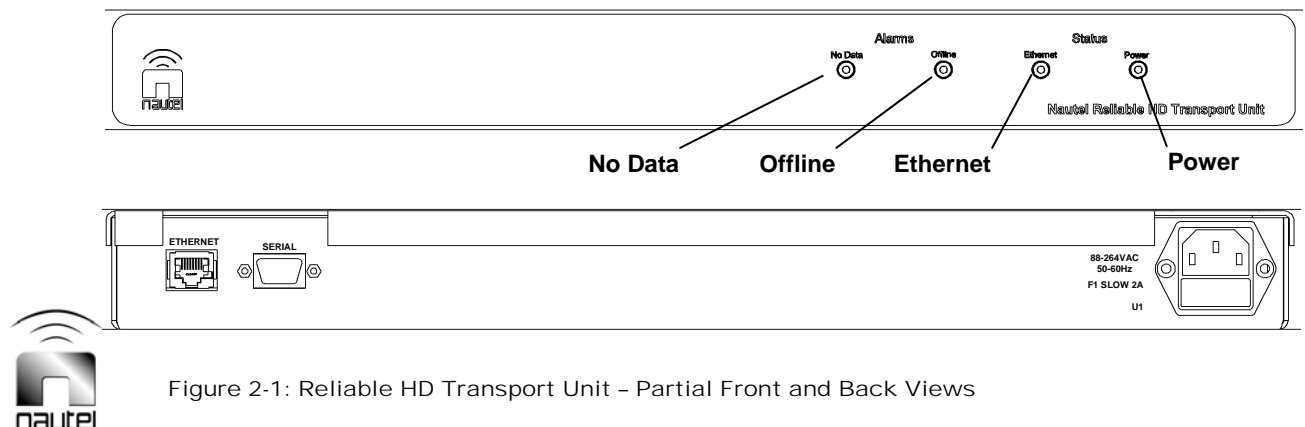

Figure 2-1: Reliable HD Transport Unit – Partial Front and Back Views
*Incorporate the reliable HD transport units into your network as described in the following paragraphs. Connections are made to the back of the units (see Figure 2-1).*
*There are four LED indicators on the front panel - **Power**, **Ethernet**, **No Data** and **Offline** (see Figure 2-1). When the unit is powered and connected to a LAN but not otherwise operational, the **Power** and **Ethernet** LEDs should be on and the **No Data** alarm should be on. During power on, both the **No Data** and **Offline** LEDs will be on.*